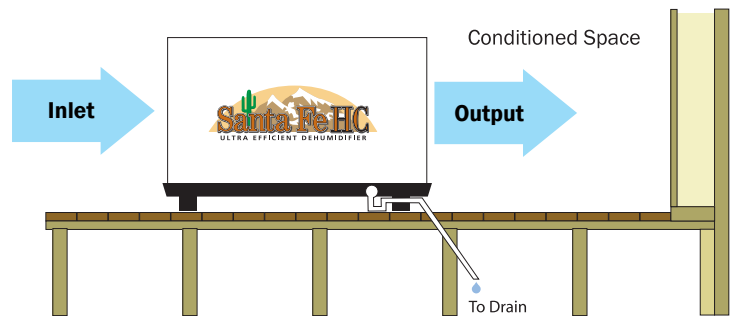

Figure 4: Installation in humid area with no ducting.
- **4.1A in Humid Area, No Ducting (Fig. 4)**